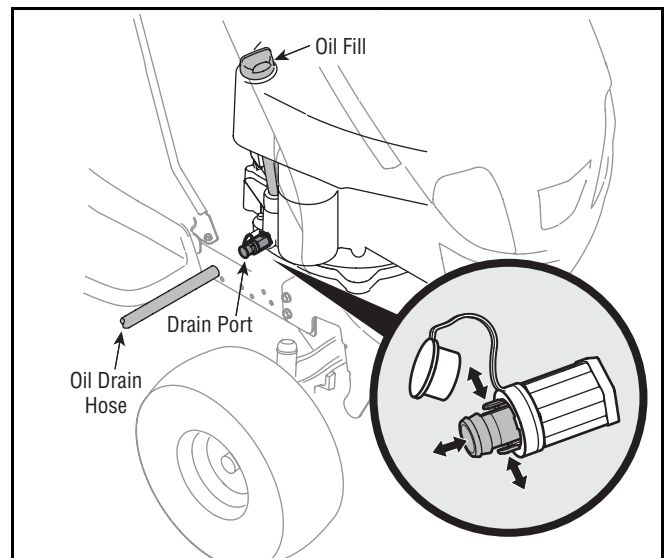

Figure 17
- Pop open the protective cap on the end of the oil drain valve to expose the oil drain port. See Figure 17.
- Pinch the tabs on the oil drain valve, then pull outward to begin draining oil. See Figure 17 .